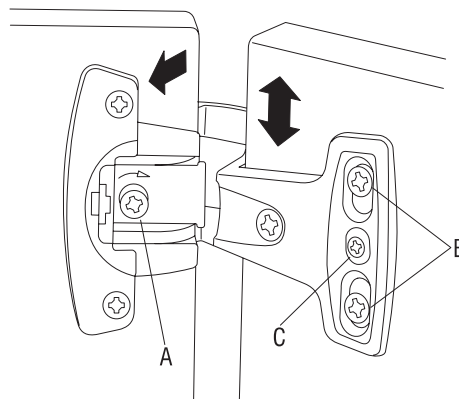

Figure 12
1. For overlay adjustment, turn eccentric screw (A). The overlay can be reduced a maximum of -2 mm (Figure 12).
2. For Height adjustment (+/- 2 mm) first unscrew fixing screw (B). Detach center stop (C) with screwdriver, adjust the height of the door and tighten fixing screws (B) (Figure 12).